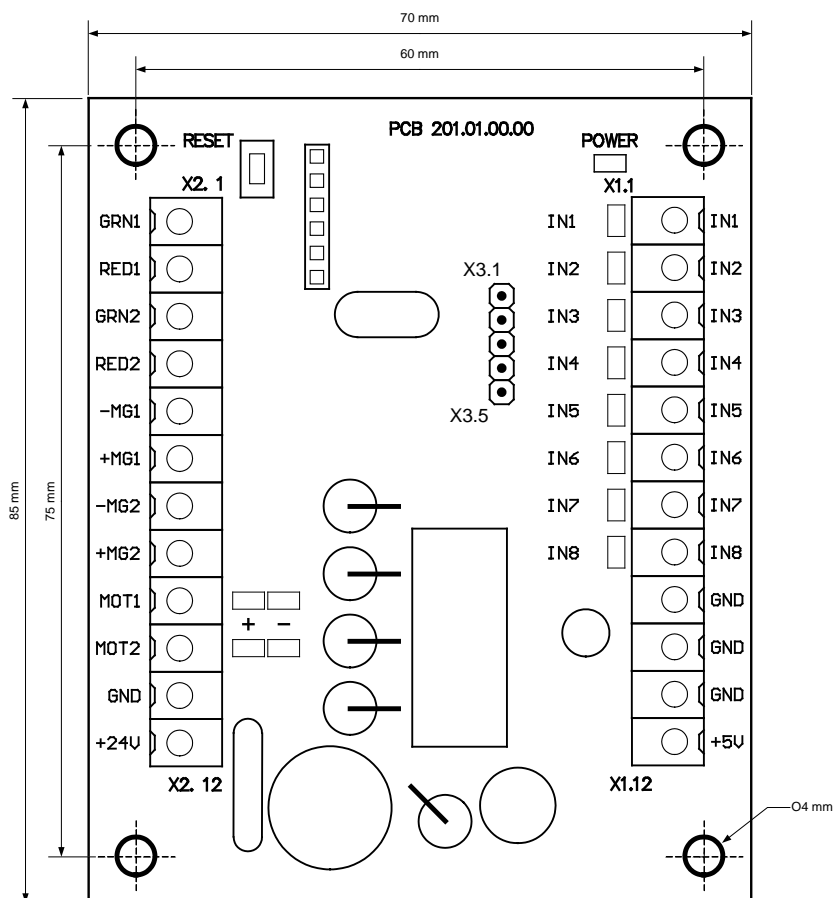

Figure 4 – Appearance of controller PCB.201.01.00.00
1.8.2.1 Appearance of controller PCB.201.01.00.00 is shown in the Figure 4.